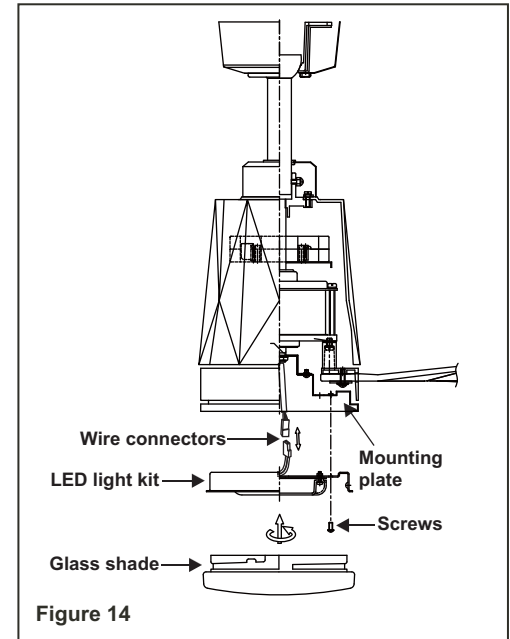

Figure 14
**Step 4.** While holding the LED light kit under the fan motor assembly, make the 2-pin wire connections: (Fig. 14)
the narrow section of the key holes. Secure by tightening the two light kit mounting screws previously loosened and the one previously removed. (Fig. 14)